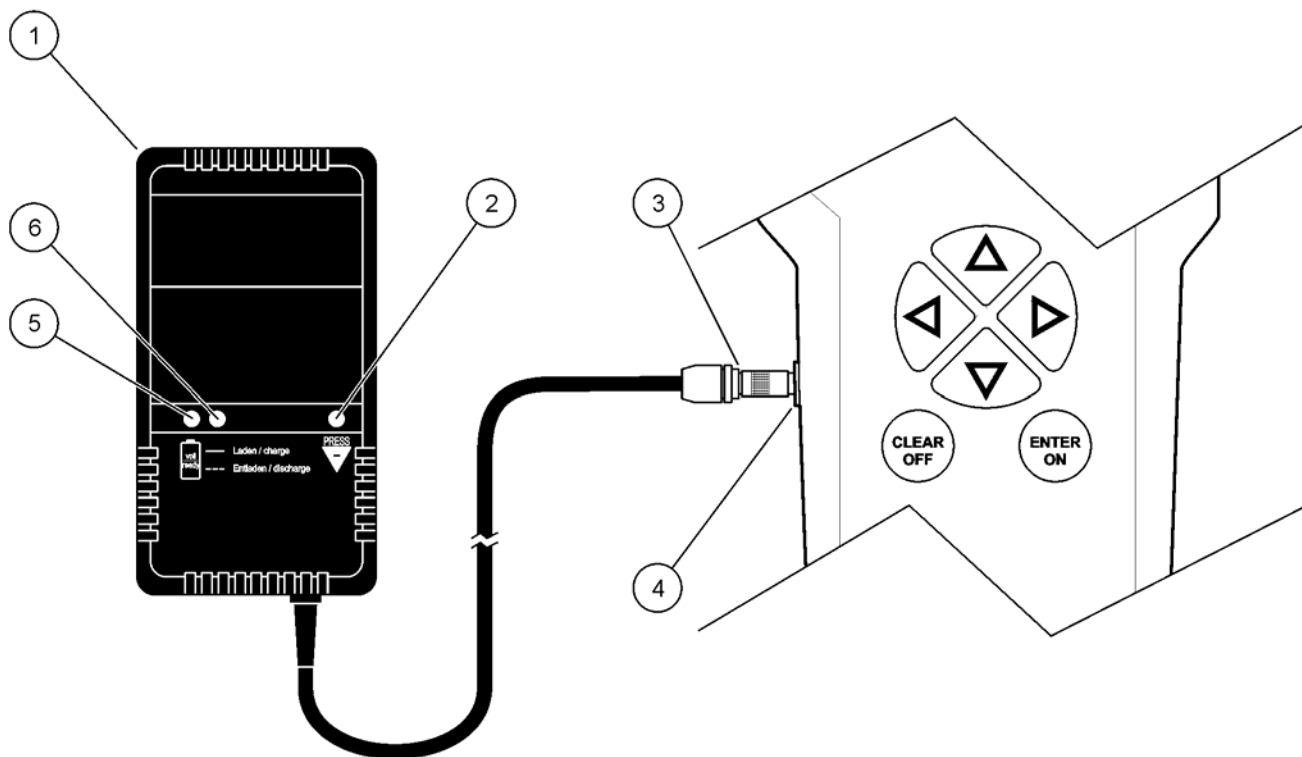

Figure 4 Charging the rechargeable batteries
3. Insert the charging plug (item 3, Figure 4) into the charging socket (item 4, Figure 4) of the instrument.
1. Connect the charger to the power supply source and then connect to the instrument (Figure 4). The rechargeable batteries are charged.